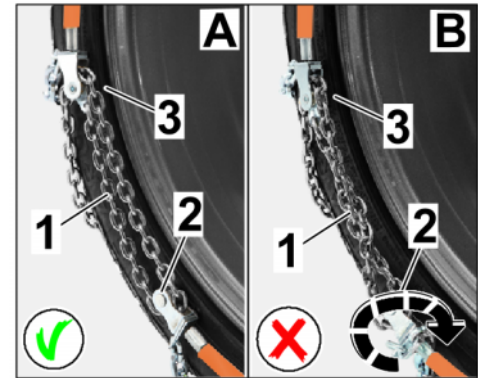

Figure 8
- 2.2.2 Check that the tensioning chain is running parallel at the tensioning point and deflection roller (end of spring steel clip on inside of wheel) $\Rightarrow$ Figure 8 -A- and is **NOT** twisted $\Rightarrow$ Figure 8 -B-.
Turn deflection roller for spring steel clip if necessary ($\Rightarrow$ Figure 8 -B, arrow-).